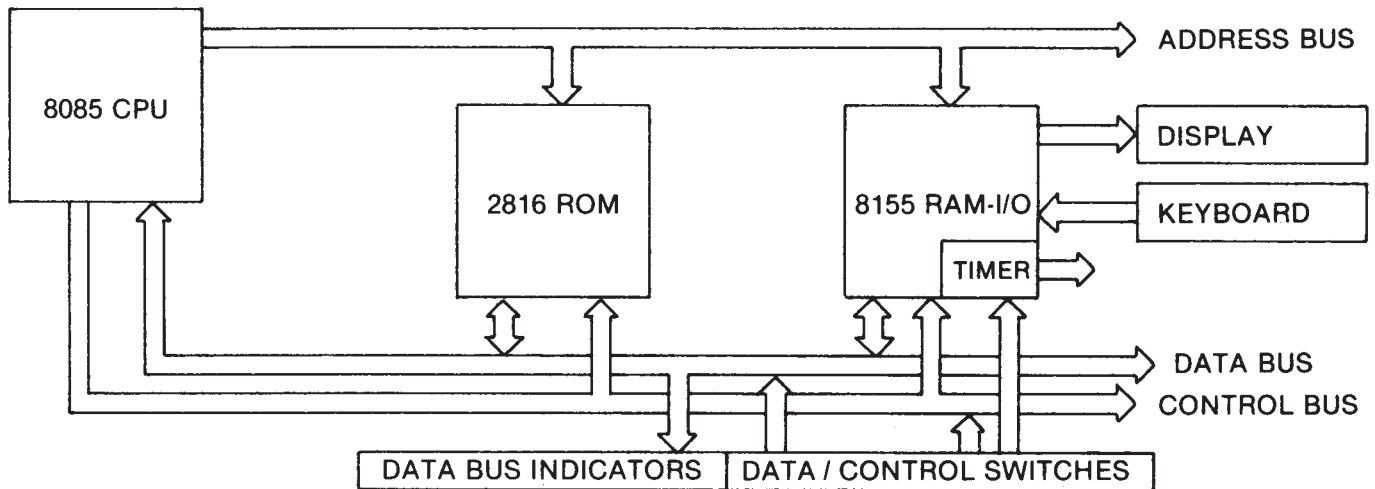

Figure 2
Figure 2 is a simplified block diagram of the MM-8000 system. The system utilizes the 8085 microprocessor as the Central Processor Unit. The 8085 is a single chip 8 bit microprocessor. The memory is in two parts. The 2816 integrated circuit provides 2K bytes of Read Only Memory (ROM). This memory is electronically erasable and may be written to at a slow rate by either the CPU or manually by data and control switches. The 8155 integrated circuit contains 256 bytes of Random Access Memory (RAM). The 8155 also contains the Input/Output (IO) section. This section consists of two 8 bit and one 6 bit I/O port. Inputs to the I/O section are from the MM-8000 keyboard consisting of 16 data and 8 function keys. Outputs from the I/O section are to two 7 segment LED displays. The data bus indicators consist of drive circuits and 8 LEDs which indicate the state of the data bus lines. The data/control switches are tied to the data and control busses and are used to write to or read from the ROM, RAM or IO ports. When reading, the data placed on the data bus by the 8155 or 2816 overrides that of the data switches.